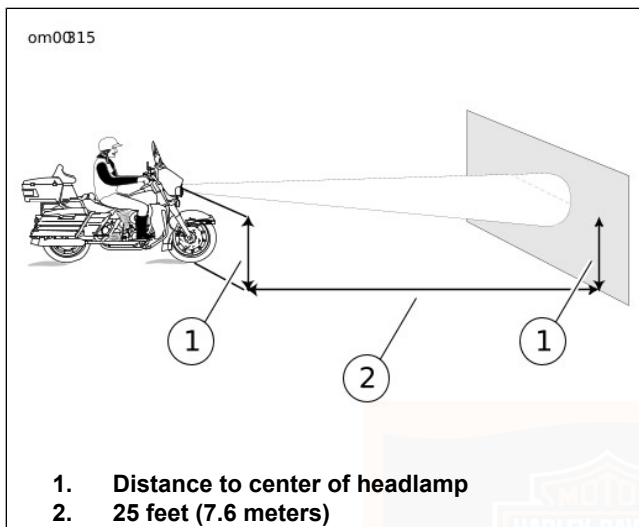

Figure 62. Check Headlamp Alignment: Touring Models
3. See Figure 62. Point the front of the motorcycle toward a screen or wall which is 25 feet (7.6 meters) from where patch of front tire contacts floor (i.e. - directly below front axle).